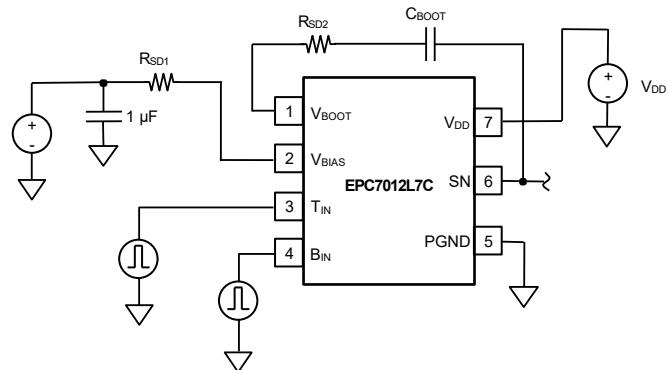

Figure 3. External Damping Resistor Connections
The EPC7012L7C is designed to be a high-speed power driver. As such it has extremely fast switching node (SN) rise and fall times by design. Fast rise and fall times can and will result in unwanted voltage spikes at the  $V_{DD}$  and PGND pins due to any parasitic layout inductance ( $V_{SPIKE} = L_{Par} \cdot dI / dt$ ). If these spikes cannot be reduced to an acceptable level through PCB optimization, two resistors may be added to provide the necessary damping to the local supply loop. These resistors,  $R_{SD1}$  and  $R_{SD2}$  are shown in Figure 3.